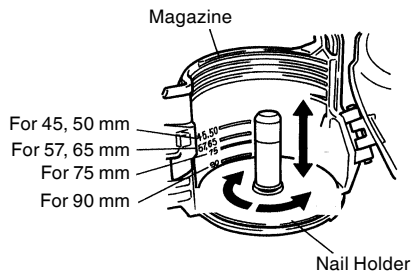

Fig. 3
Turn the nail holder ③ clockwise (about 90 degrees) until it goes click. (Fig. 3)